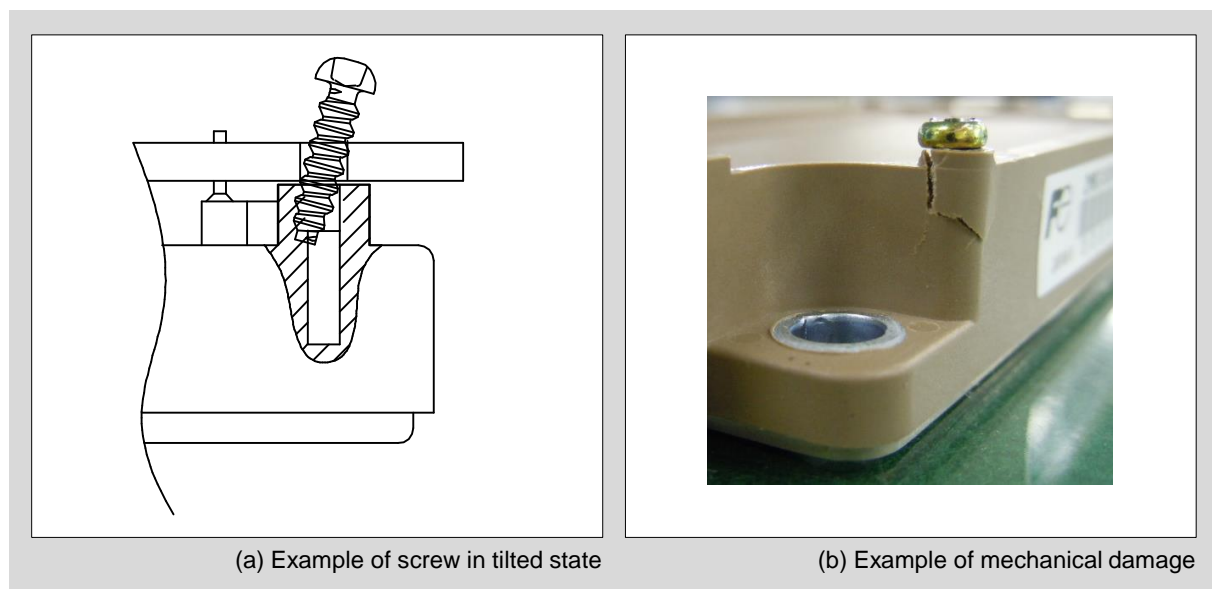

Fig.6 Poor example of screw tightening
5. Manual screwing is recommended. When using an electric screwdriver, optimize the parameters such as tightening conditions to avoid mechanical damage. Check that the product is not damaged after tightening. Also, the screwing speed should not exceed 300 rpm. It may result in mechanical damage as shown in Fig.6.